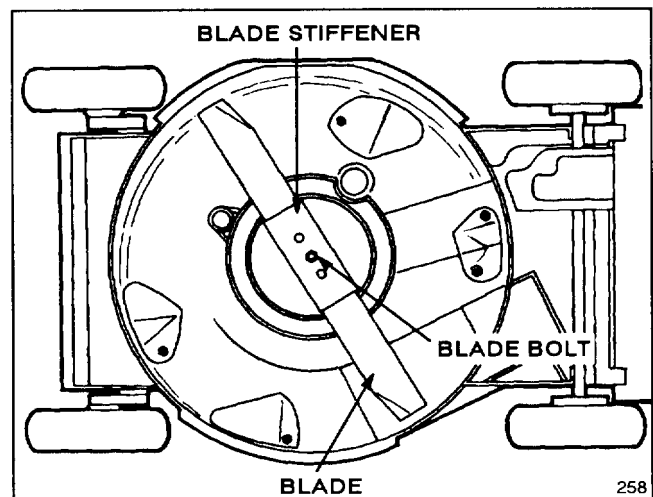

Figure 19
3. Tip mower on its right side (Fig. 19). Avoid rotating the blade because starting problems may result.
5. **REMOVING BLADE**—Grasp end of blade using a rag or thickly padded glove. Remove blade bolt, lockwasher, blade stiffener, and blade (Fig. 19).